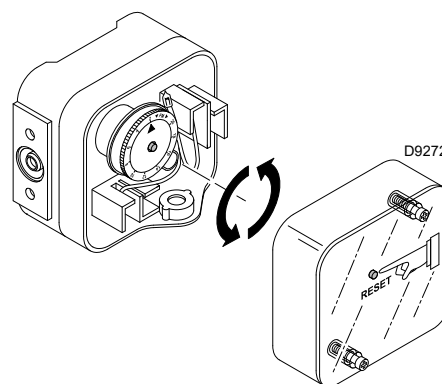

Fig. 49
- Adjust the maximum gas pressure switch (Fig. 49) to the end of the scale.
Adjust the maximum gas pressure switch (Fig. 49) after having performed all other burner adjustments with the maximum gas pressure switch set to the end of the scale.